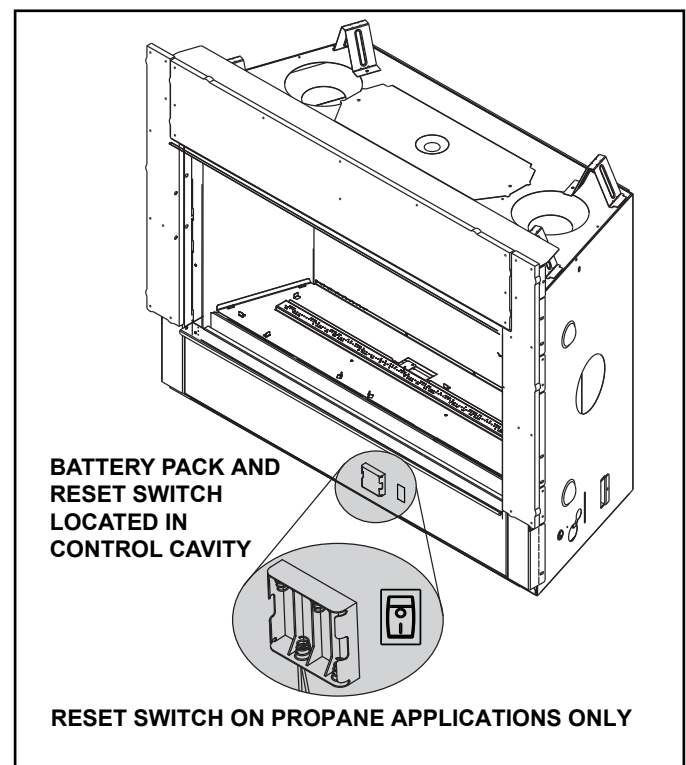

Figure 3.6 Battery Pack Location/Control Cavity
The IntelliFire Touch® intermittent pilot ignition system comes with a battery backup system that enables the system to operate in a power outage. The system offers seamless transition from household AC power to battery backup. A factory-installed battery pack is located in the control cavity of the appliance. See Figure 3.6. Battery longevity and performance will be affected by long term exposure to the service temperatures of this appliance.
1. The battery pack is located in the control cavity of the appliance. To access the control cavity of the appliance Remove the decorative barrier front and glass assembly. See Section 4 for instructions on glass assembly removal. See Figure 3.6 for location of battery pack.
2. Locate the battery pack and remove it from the control cavity. It is held in place by hook and loop fastener. Insert four AA cell batteries. Battery polarity must be correct or module damage will occur. See Figure 3.6. A complete wiring diagram is included in the Electrical section of the appliance Installation Manual.